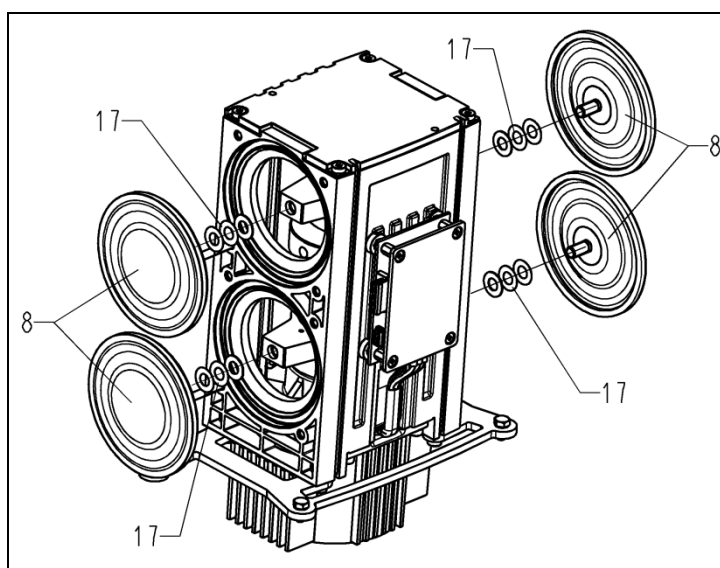

Fig. 24: Replacing the diaphragm
1. Manually remove the four diaphragms (Fig. 24/8) by turning them in a counter-clockwise direction.
3. Manually screw the new diaphragms (Fig. 24/8) into the threads of the connecting rod and tighten to hand tightness.